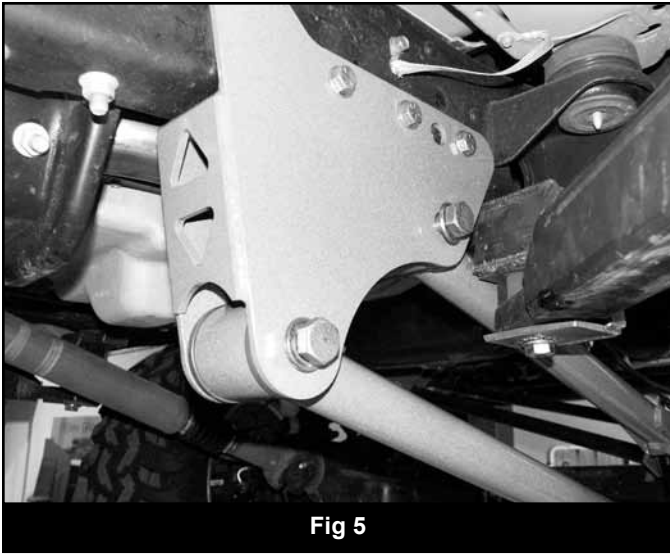

Fig 5
14. Install the assembled upper control arm in the new frame bracket and fasten with a  $\frac{3}{4}$ " x 5-1/2" bolt, nut and  $\frac{3}{4}$ " SAE flat washers from bolt pack #432. The two tabs on the control arm go up. Leave hardware loose. (Fig. 5)